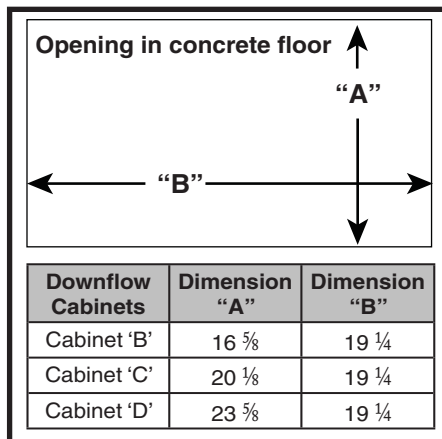

Figure 14. Cutout Dimensions
1. Create an opening in the floor according to the dimensions in Figure 14.